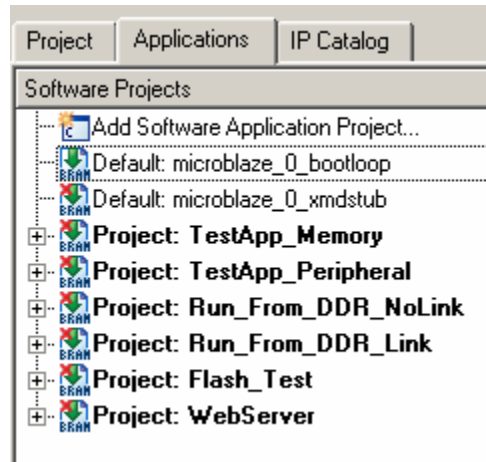

Figure 4 – WebServer Applications Tab
4. Mark the software applications such that **Default: microblaze_0_bootloop** is the only thing marked for BRAM initialization, as shown in Figure 4.